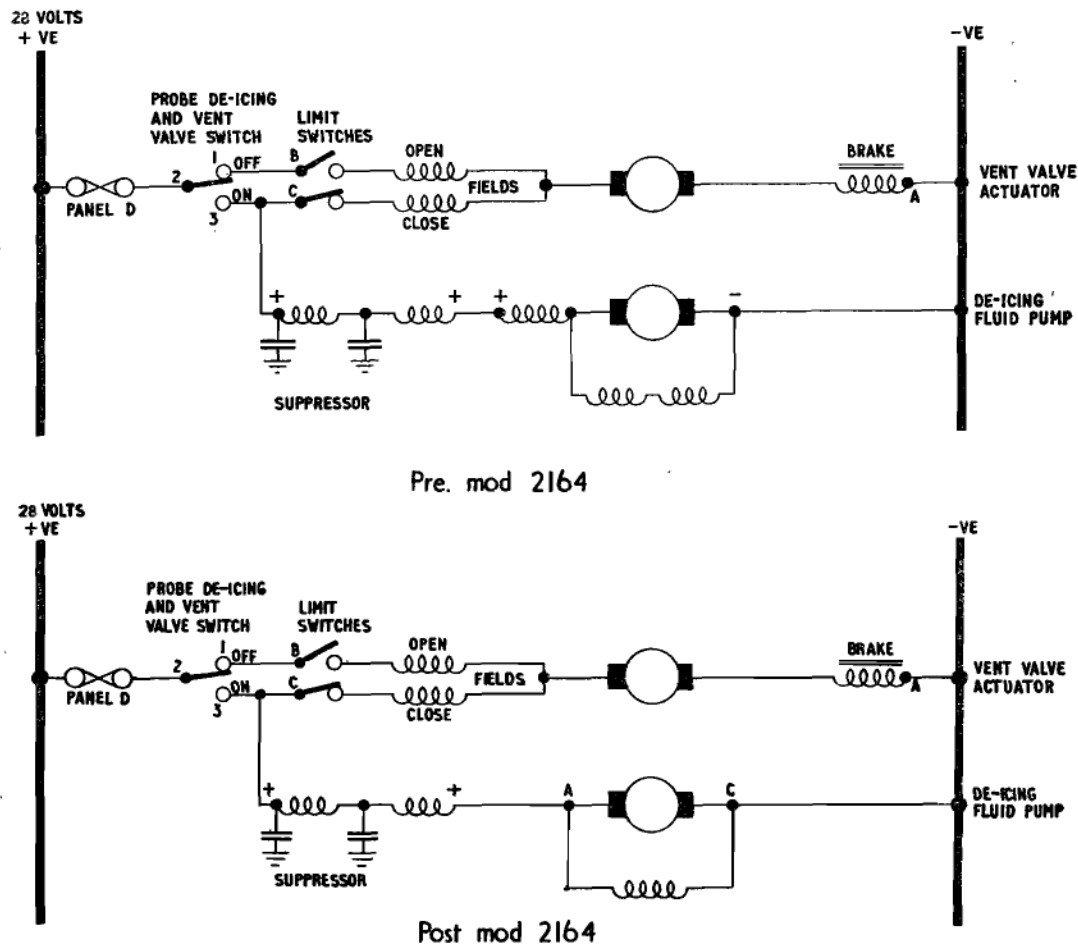

Fig. 2. Probe de-icing pump and vent valve control
### PROBE DE-ICING AND VENT VALVE CONTROL (fig. 2)
**1.** Post Mod. 2994, the flight refuelling Mk. 6 probe nozzle and probe unit is replaced by a Mk. 8 nozzle and adaptor. Upon the introduction of this Mk. 8 nozzle the probe de-icing and vent valve control circuit (GROUP 2, FIG. 2 and 6) described in Group 2,